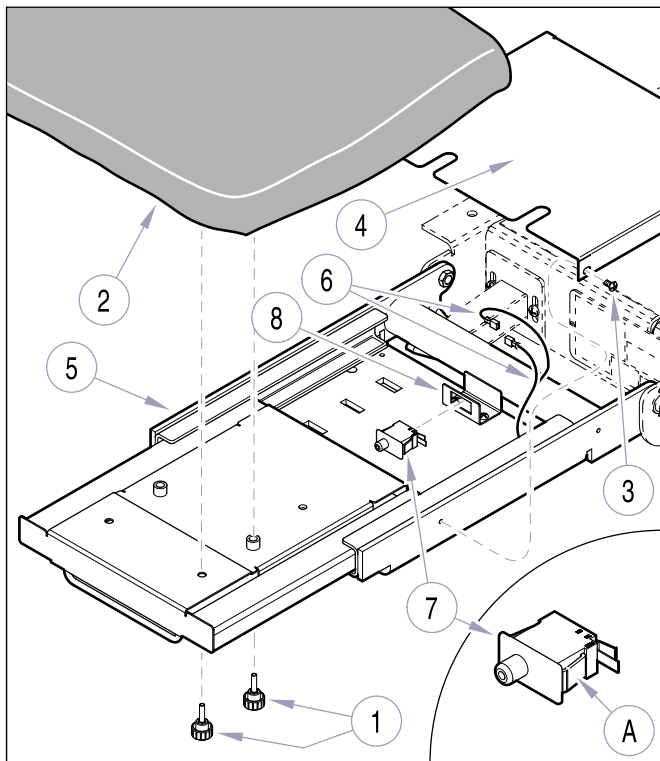

Figure 4-43. Foot Rest Extension Limit Switch Removal / Installation
- (2) Pull foot rest extension out as far as it will go.
- (3) Remove four knobs (1, Figure 4-43) and foot rest upholstery (2).
- (4) Remove four screws (3) and foot weldment cover (4) from foot section weldment (5).
- (5) Tag and disconnect two wires (6) from terminals of limit switch (7).
- (6) Depress two tabs (A) and remove limit switch (7) from limit switch bracket (8).